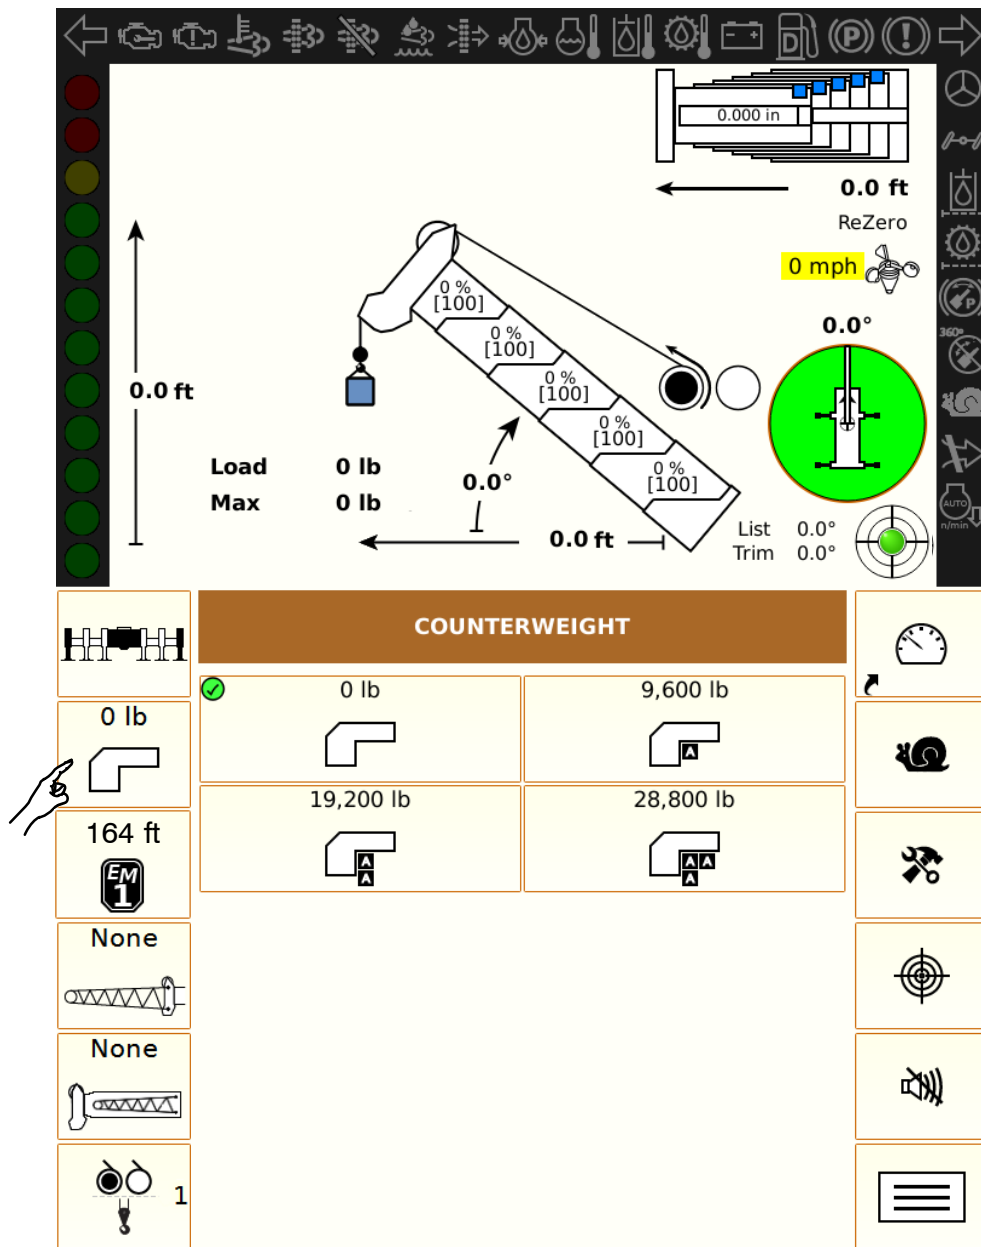

Figure 1-103
2. The Counterweight Menu will appear. The activation icon will be present on the button of the previously set configuration. Refer to Figure 1-103.